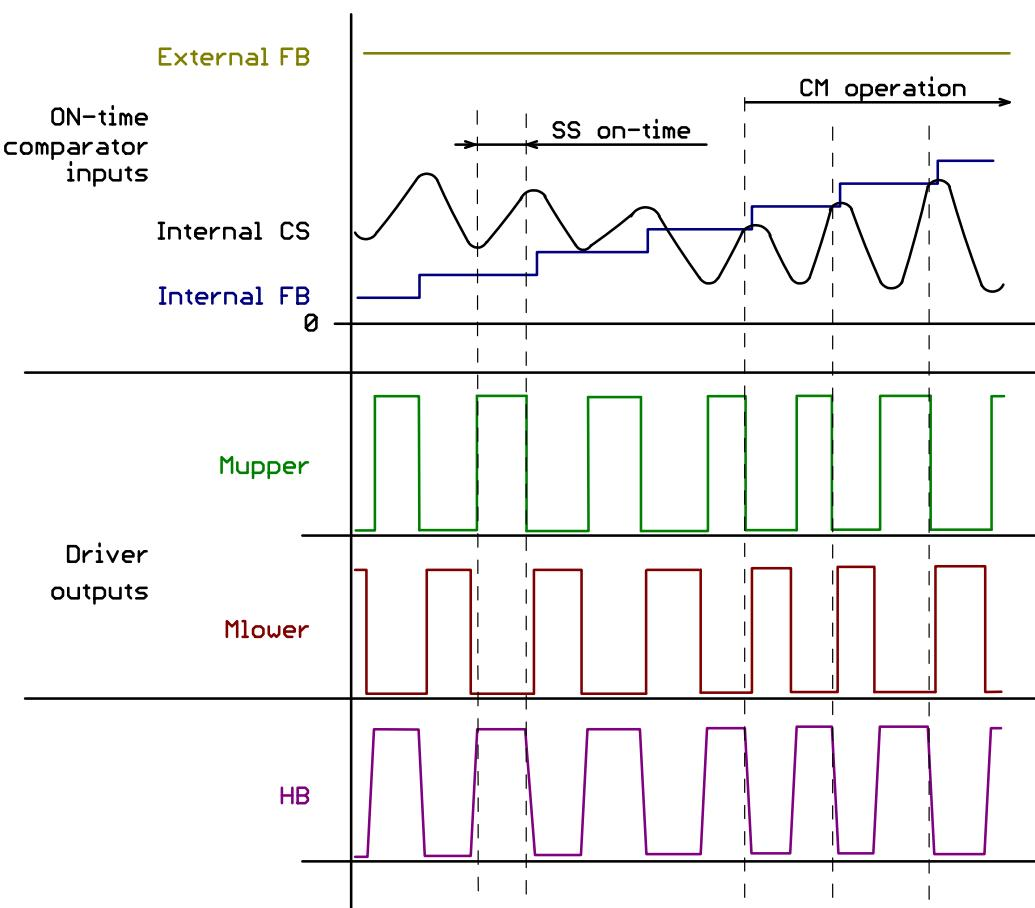

Figure 45. Soft Start Behavior
5. The *Soft-Start D/A converter* generates a soft-start voltage ramp for ON-time comparator input synchronously with Soft-Start counter incrementing. The internal FB signal for ON-time comparator input is artificially pulled-down and then ramped-up gradually when soft-start period is placed by the system – refer to Figure 45. The FB loop is supposed to take over at certain point when regulation loop is closed and output gets regulated so that soft-start has no other effect on the on-time modulation. The Soft-Start counter continues counting-up until it reaches its maximum value which corresponds to the IC maximum on-time value – i.e. the IC minimum operating frequency. The Soft-Start period is terminated (i.e. counter is loaded to its maximum) when the FB pin voltage drops below $V_{FB_SKIP_IN}$ level. The D/A converter output evolves accordingly to the Soft-Start counter as it is loaded from its output data bus.